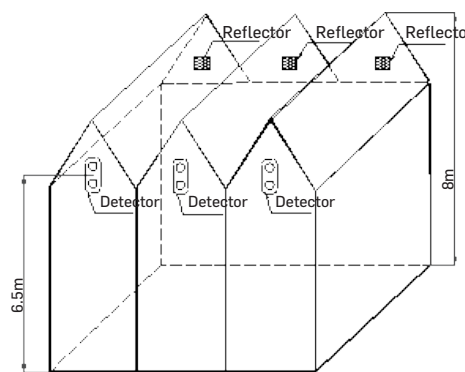

Fig.6
d) As the space height with gable structure is about 8m, the detector and reflector/s should be mounted on the walls which are opposite, having about 1.5m from the gabled girder. Refer to Fig. 6.